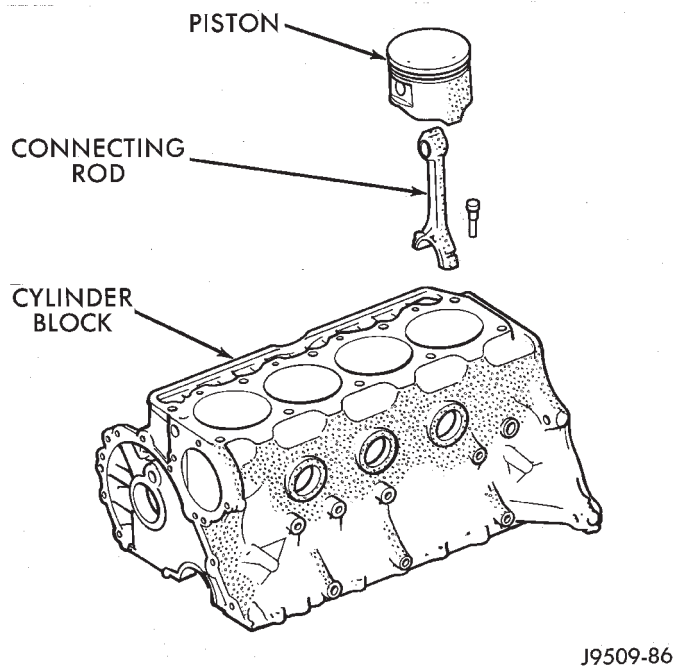

Fig. 2 Removal of Connecting Rod and Piston Assembly
- (11) Have an assistant push the piston and connecting rod assemblies up and through the top of the cylinder bores (Fig. 2).